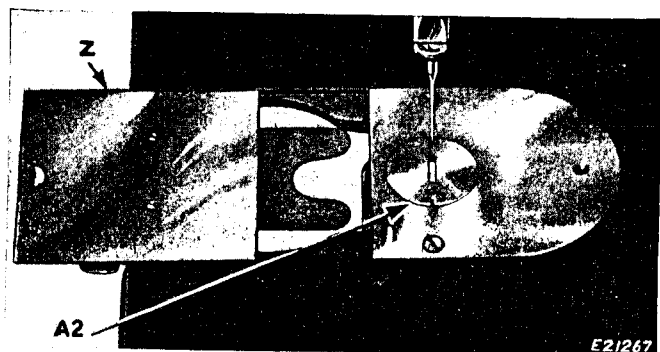

Fig. 19. Showing Bed Slide Withdrawn for Removal or Replacement of Flat Needle Plate
To remove the flat needle plate (A2, Fig. 19), draw the bed slide (Z, Fig. 19) to the left, as shown in Fig. 19. This will unlock the flat needle plate so that it can be lifted out of the recess in the throat plate.
To replace the flat needle plate (A2), have the bed slide (Z) withdrawn, as shown in Fig. 19. Place the needle plate in the
Remove the spur plate and place the flat needle plate (A2, Fig. 19) in the machine as instructed on page 14. Remove the presser foot and lower the presser bar.
Place the flat needle plate (A2, Fig. 19) in position in the machine as instructed on page 14.